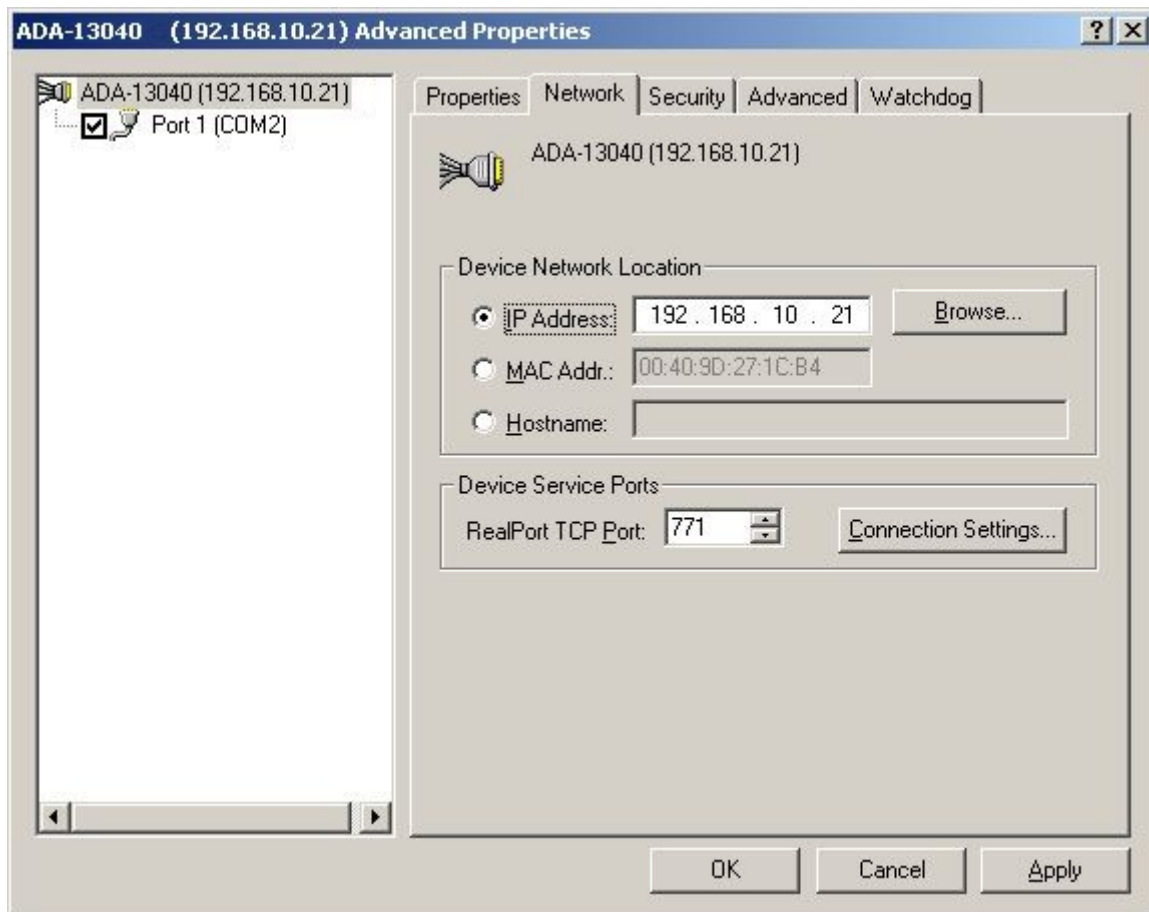

Fig 22. Configuration of multi-port series adapter
8. **Selections of IP address, MAC, DNS converter for communication with virtual port driver.** In the window [ **Advanced Properties** ] click [ **ADA-13040** ] and then select [ **Network** ] (Fig. 22), where you can set the **IP address**, **MAC Address** or **DNS name of converter**.